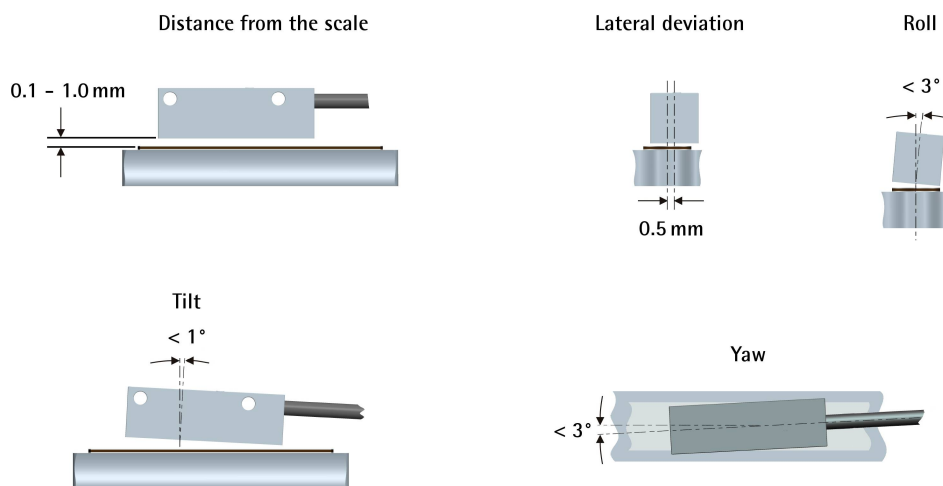

Figure 2
Make sure the mechanical installation meets the system's requirements of distance, planarity and parallelism between the sensor and the scale indicated in Figure 2 all along the whole measuring length.
Make sure the mechanical installation complies with the system requirements concerning distance, planarity and parallelism between the sensor and the scale as shown in Figure 2 all along the whole measuring length.
- the gap between the sensor and the scale is out of tolerance (see Figure 2)